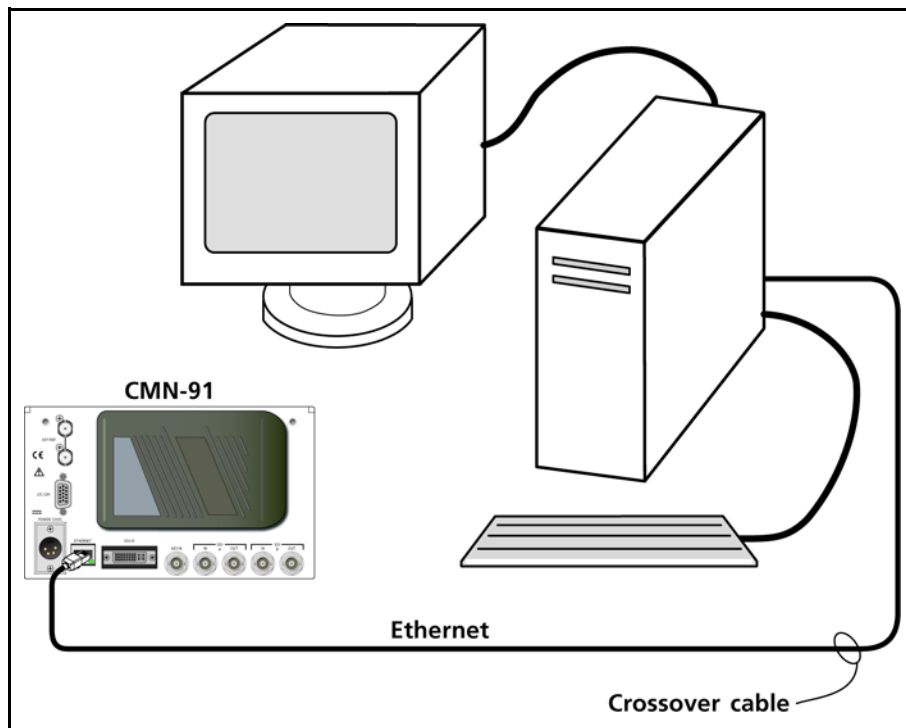

Figure 2-5 CMN-91 Dedicated PC Connection
- For a dedicated PC connection, connect the host PC with a network card to the “ENET” connector on the back panel of the CMN-91, using a CAT5 crossover cable (not included). See Figure 2-5.